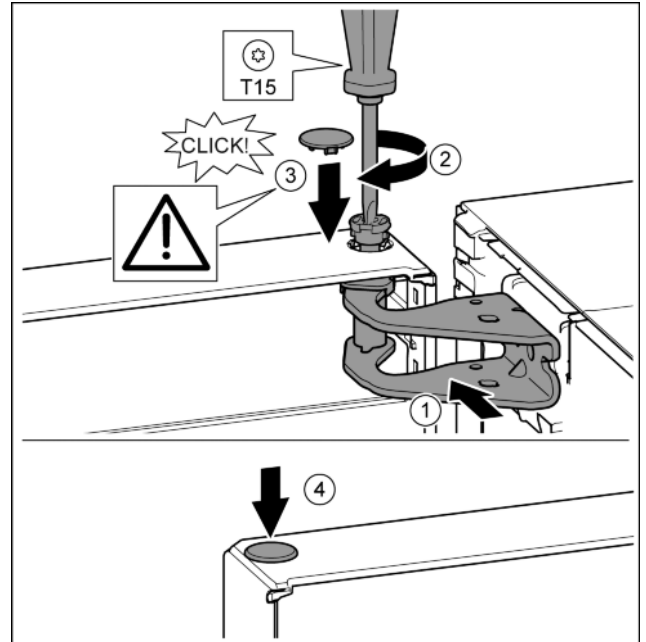

Fig. 22
- ▶ Align top of door with aperture in mounting block. Fig. 22 (1)
- ▶ Insert the bolt and tighten with a T15 screwdriver. Fig. 22 (2)
- ▶ Fit protective cover to protect the door: Insert the protective cover and check that it is attached to the door. If not, insert the bolt fully. Fig. 22 (3)
- ▶ Insert the plugs. Fig. 22 (4)